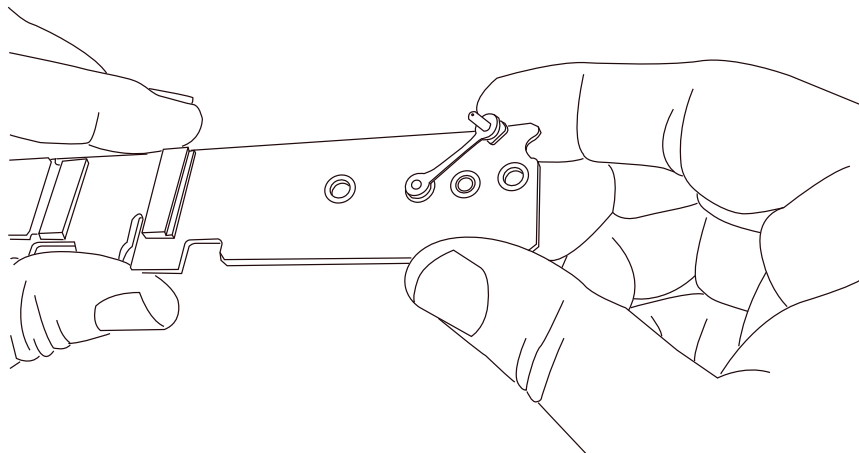

Figure 3-11. Inserting the Standoff
3. Remove the two screws from the left side (viewed from the chassis front) of the node chassis that secure the M.2 carrier card to the node chassis. (Figure 3-11)